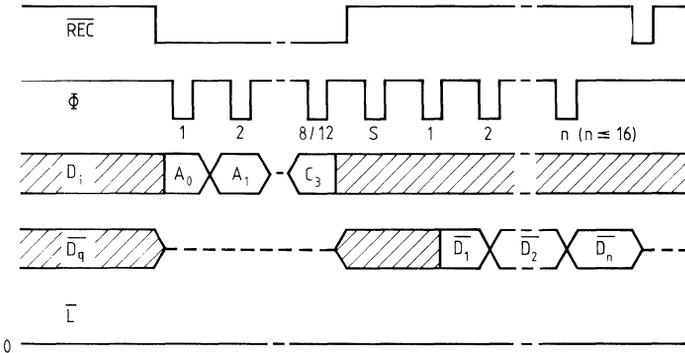

Figure 1a
**Figures 1a and 1b Read operation (only the pertinent active levels are indicated)**